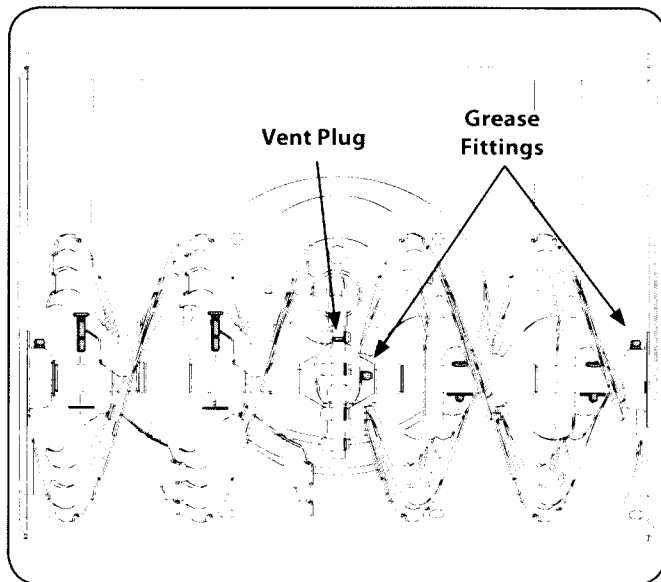

Figure 6-3
At least once a season, remove the shear pins from the auger shaft. Spray lubricant inside the shaft and around the spacers along the shaft. Using a grease gun, apply two strokes of grease (Part Number 737-0168A) to the fitting found at each end of shaft. See Fig. 6-3.
**NOTE:** Always remove the vent plug prior to lubricating the gear case. See Fig. 6-3. Failure to do so could result in damage to the seals.